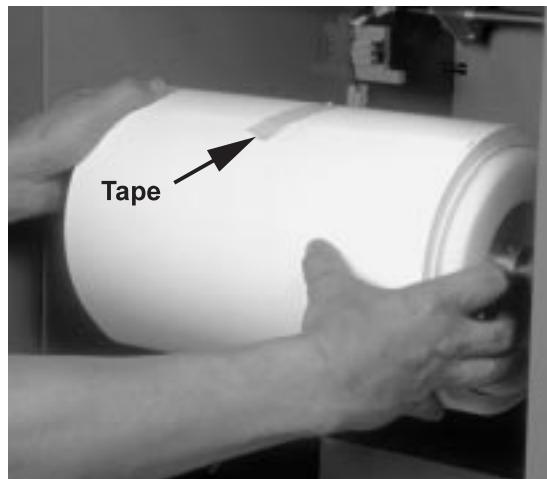

Figure 190. Taping and Removing the Paper Roll
- 5 Attach the loose end of the paper to the roll, using a small piece of tape, as shown in Figure 190.
- 6 With your hands placed at both sides of the roll, as shown in Figure 190, gently pull the roll out of its bearings and up to the notches at the front of the side guides.